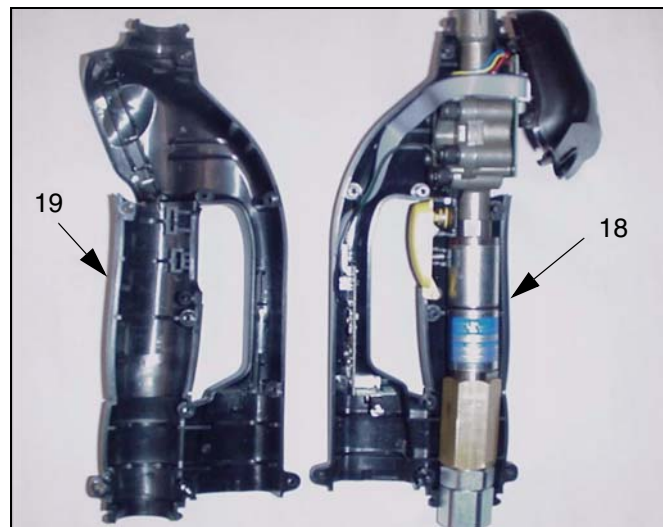

FIG. 42
7. Pull apart the two cover halves leaving all parts in the right cover half (18).
All services to the meter should be done using the right cover half (18) of the meter. If parts should disengage as the covers are separated, reposition the parts back into the right cover half (18). See FIG. 42.